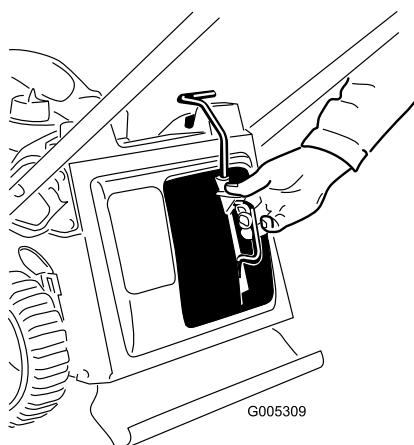

Figure 31
3. Insert the mulch plug (Figure 31).